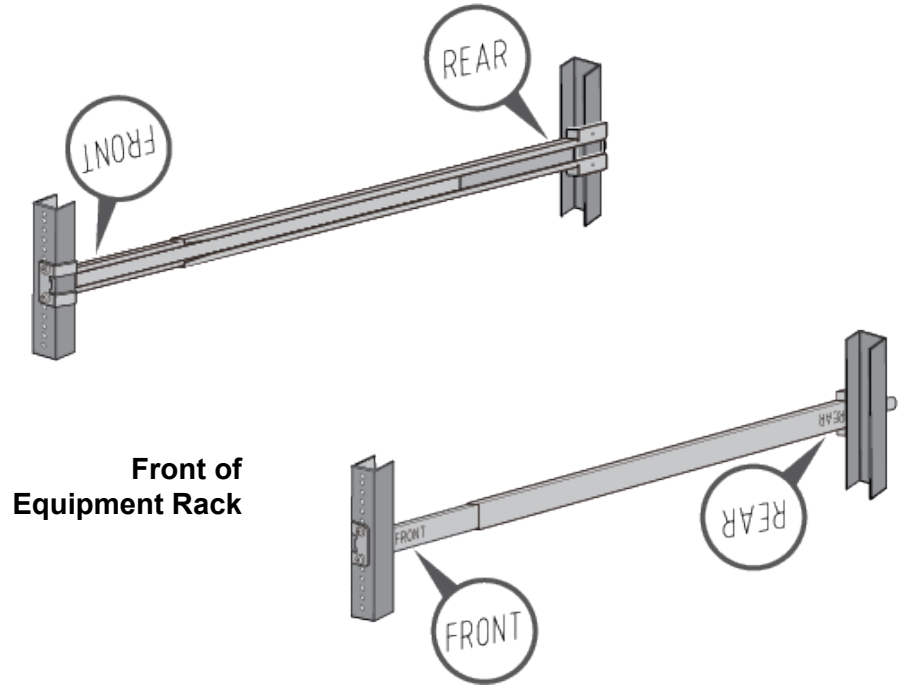

Figure 106. Installing the Outer Rails on the Equipment Rack
2. Attach the outer rails to the equipment rack using the supplied screws. Use four screws per rail. Refer to Figure 106 on page 183. Installing the switch can be easier if you leave the screws slightly loosened now and fully tightened them after the switch is installed.